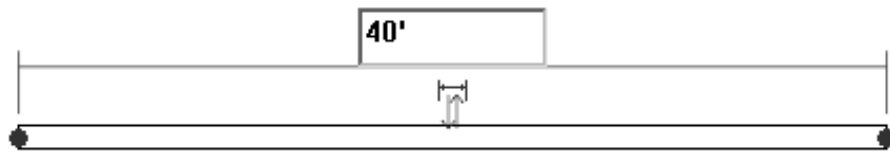

Figure 3-30 Modifying the length of a wall segment using temporary dimensions
2. Enter **40'0"** in the edit box, as shown in Figure 3-30 and then press ENTER. The wall length is modified to 40'0". Press ESC to exit from the **Modify Walls** tab.